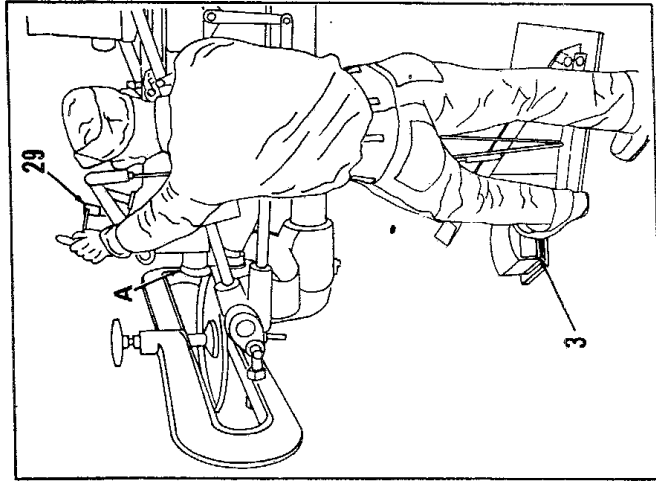

Fig. 12
3. Step on foot switch (3) (Fig. 12). With former operating, slowly lower the upper flanging roll (A) by turning crank handle (29) on frame, or foot switch, until roll bottoms.